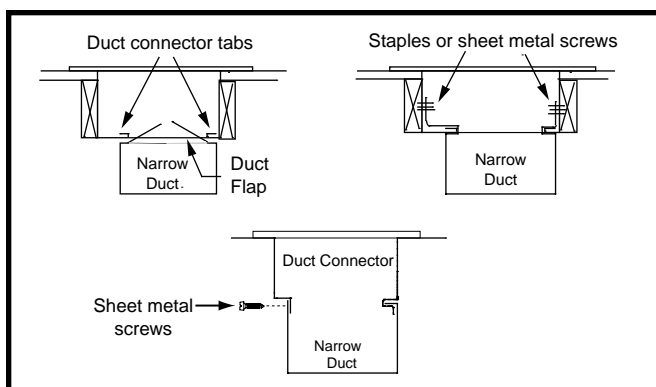

Figure 11. Narrow Ducts
4. Bend the tabs on the bottom of the duct connector upwards and as tight as possible against the supply air duct (Figure 11, page 11).